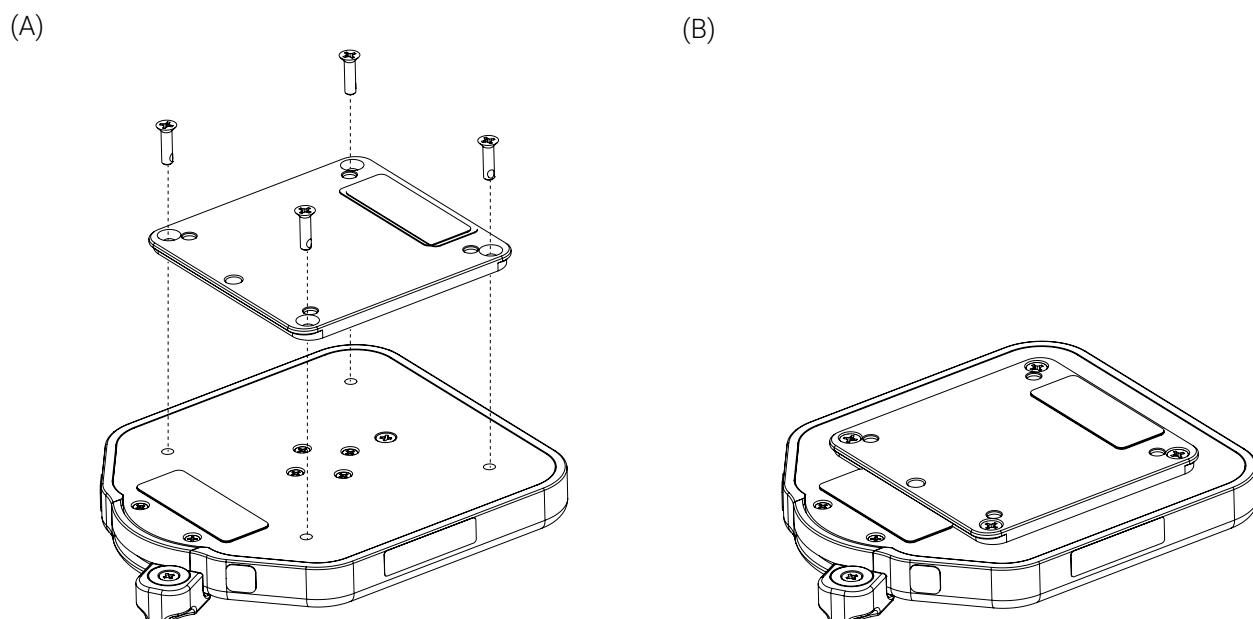

Figure 17: Installing the Flex Adapter on the Universal Mounting Base
1. Place the Universal Mounting Base upside down on a flat surface (Figure 17).
2. Align and place Flex Adapter on top of the base, then tighten the four (4) 10-32 in. X 3/4 in. L flat head screws in a cross-pattern using a Phillips-head screwdriver #2 (Figure 17).